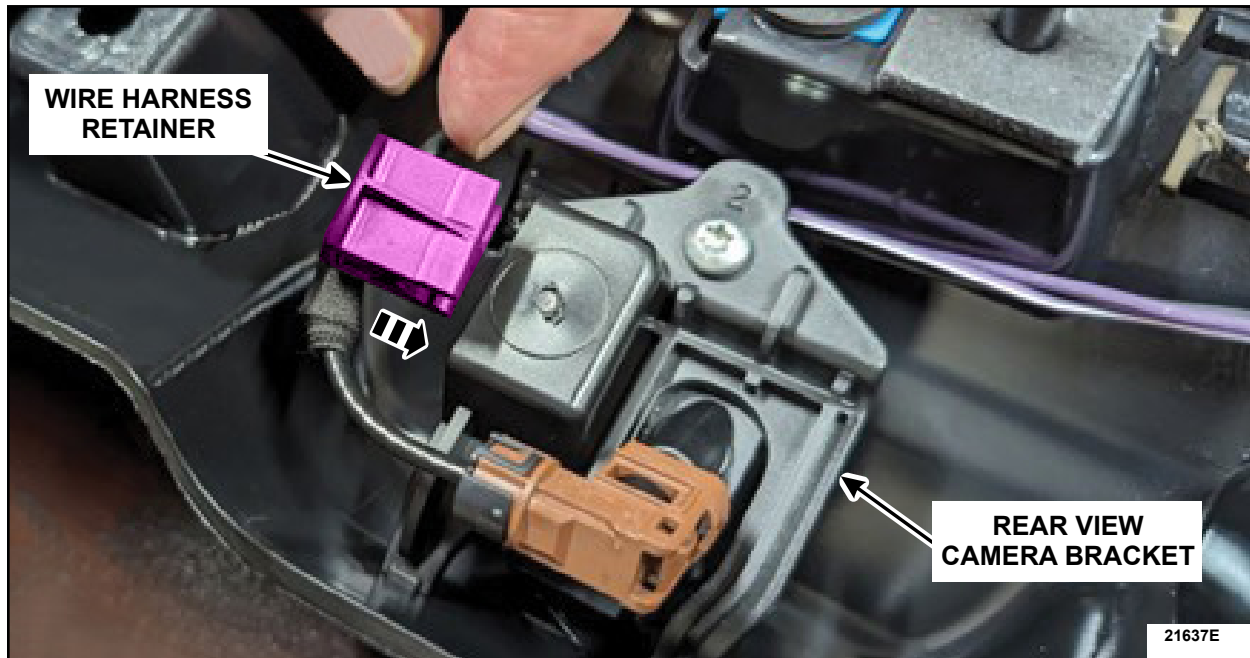

FIGURE 19
7. Attach the wire harness retaining clip to the rear view camera bracket. See Figure 19.